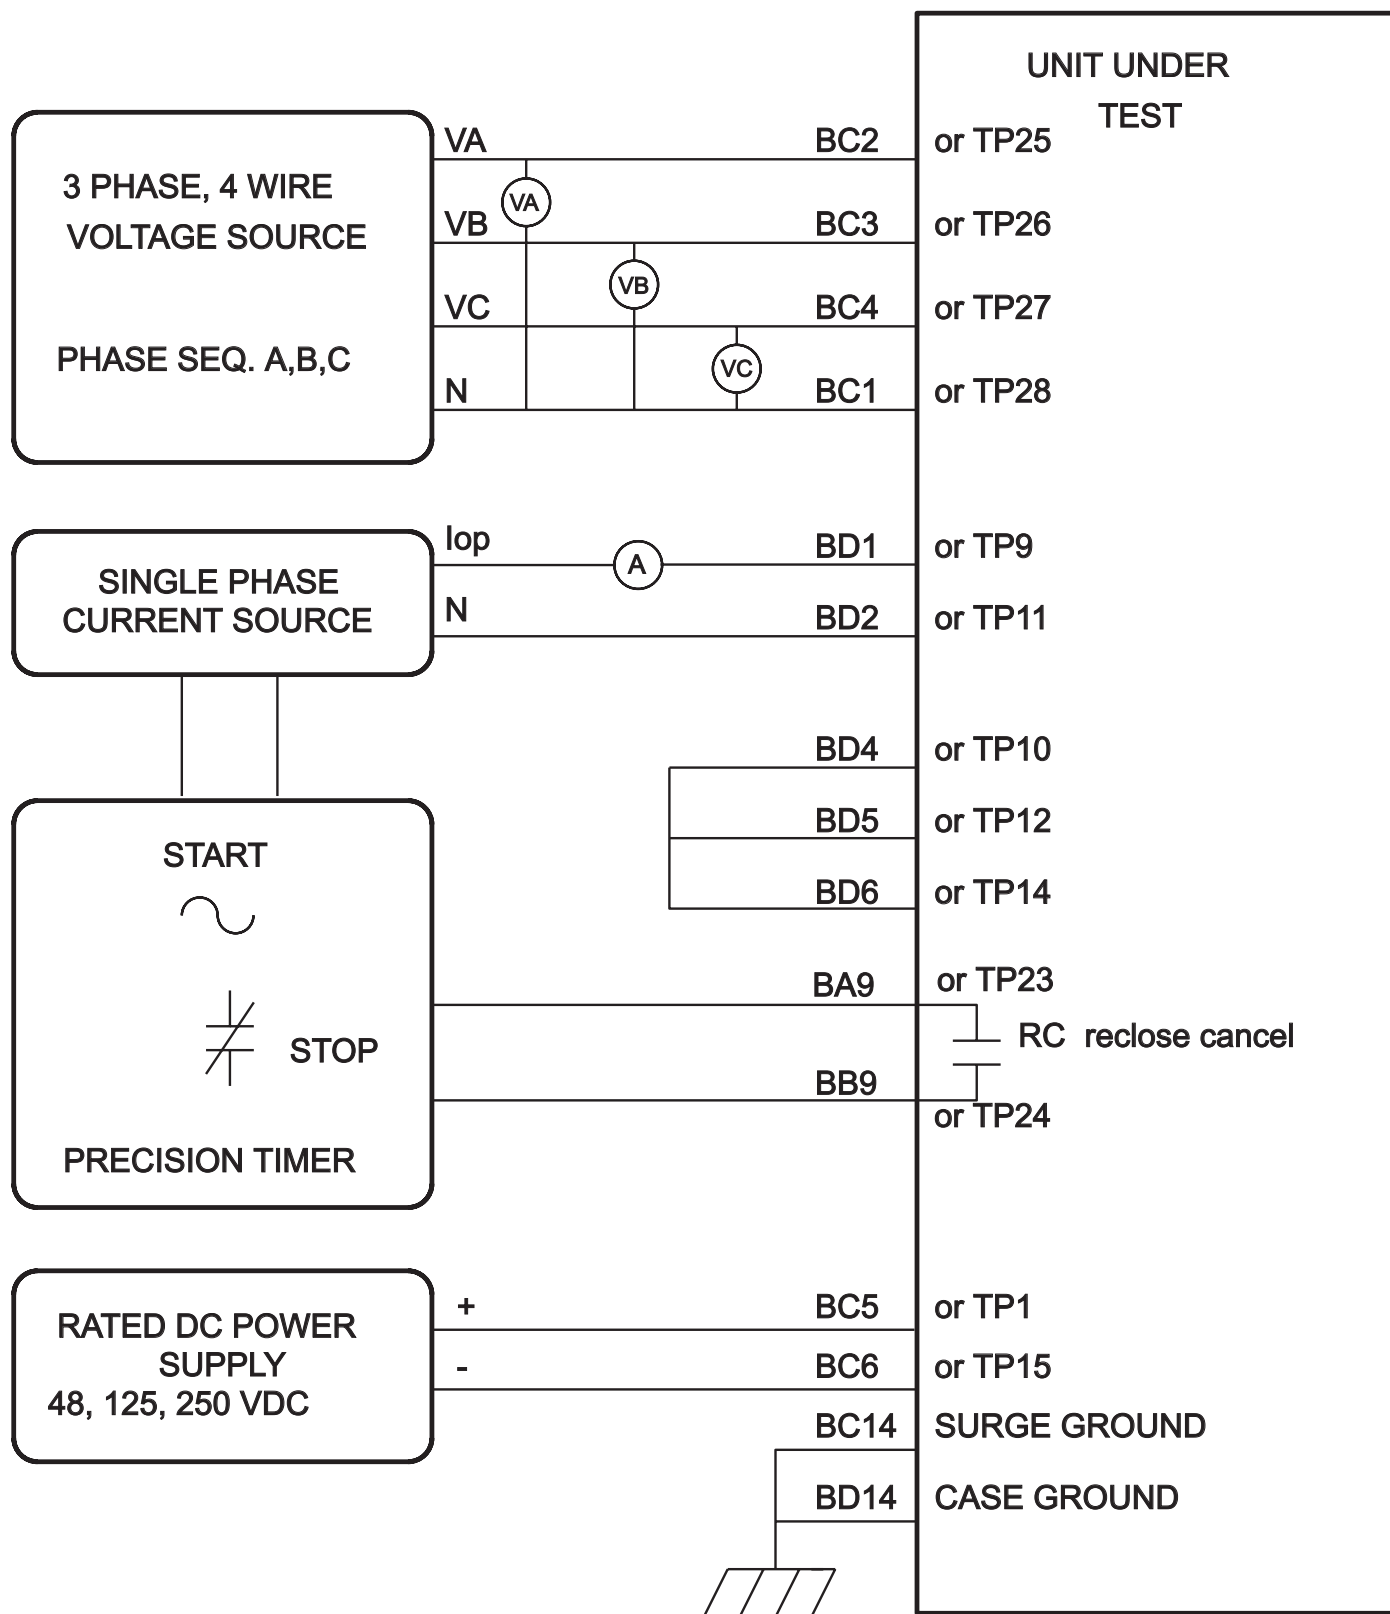

Figure 4-6. (0286A4813, sh. 6).Phase-reach timer test connections
2. Connect the relay as shown in Figure 4-6 for an AB fault.